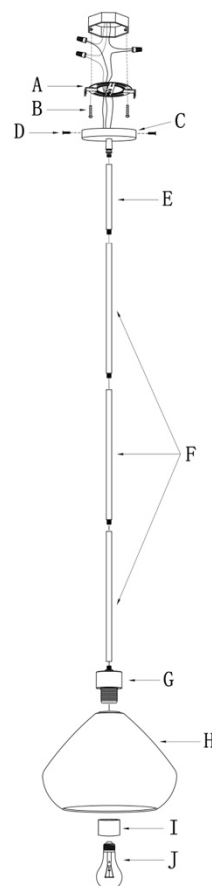

Fig. 2
CONNECTING THE WIRES (Fig. 2)
7. Connect electrical wires as shown in Fig.2, making sure that all wire connectors are secured. If your junction box has a ground wire (green or bare copper), connect the fixture's ground wire to it. Otherwise, connect the ground wire directly to the mounting plate (A) using the green screw provided.